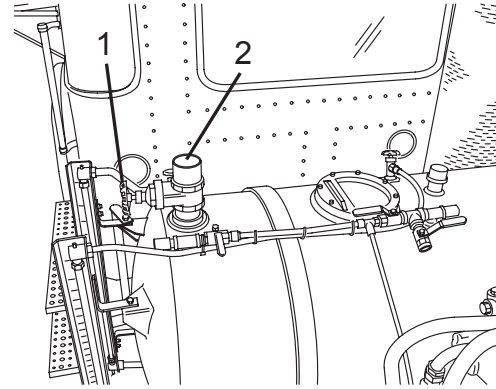

Figure 102
2. Open the chemical tank gate valve (Figure 102, Item 1) and add the chemical through the inlet (Figure 102, Item 2).